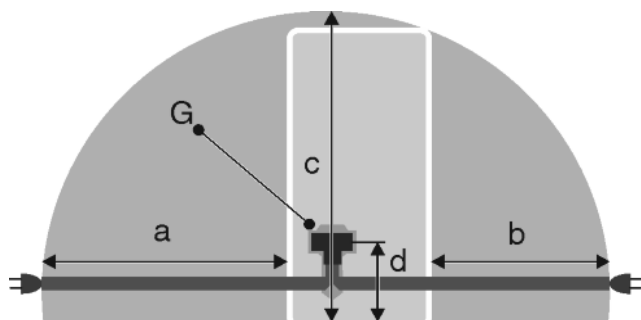

Fig. 24
- The socket is outside the back of the appliance area in the specified area Fig. 24 (a, b, c).
- ▶ Insert the appliance plug Fig. 24 (G) into the back of the appliance. Ensure that it clicks into place.